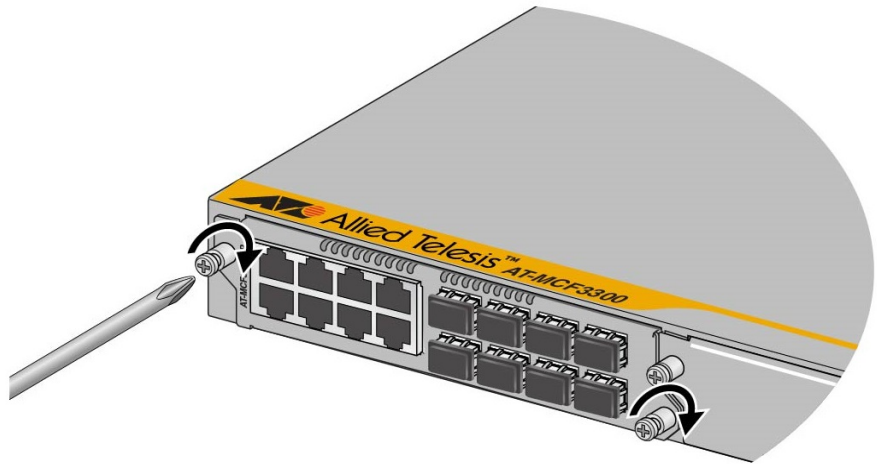

Figure 32. Securing a Media Converter Module
6. Tighten the two captive screws on the media converter module with a cross-head screwdriver to secure it in the chassis. Refer to Figure 32.